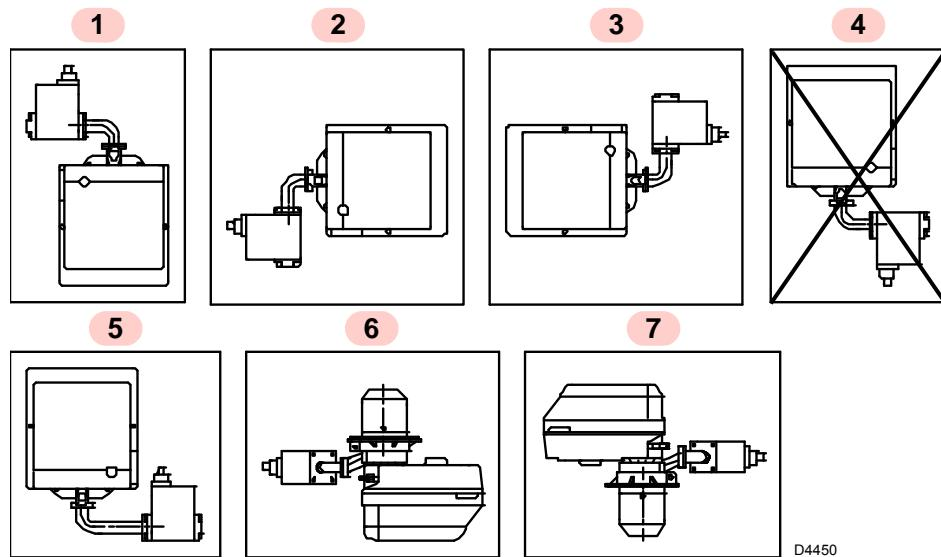

Fig. 9
- The burner is set up to operate only in positions **1, 2, 3, 5, 6** and **7** (Fig. 9).